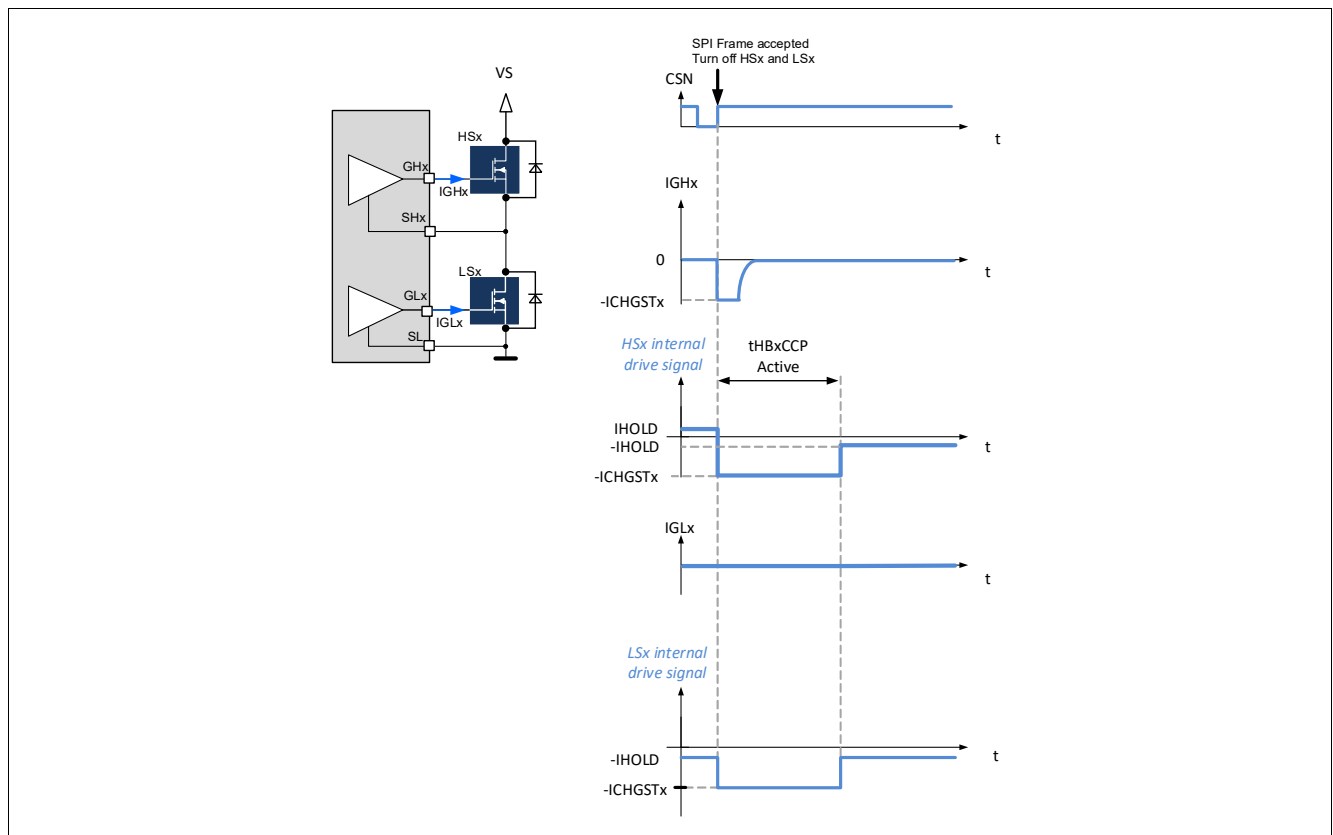

Figure 25 Turn-off of the high-side and low-side MOSFETs of a half-bridge
- The gate of HSx and LSx are discharged with the current $-ICHGSTx$ for the duration $t_{HBxCCP\ ACTIVE}$ (Figure 25).